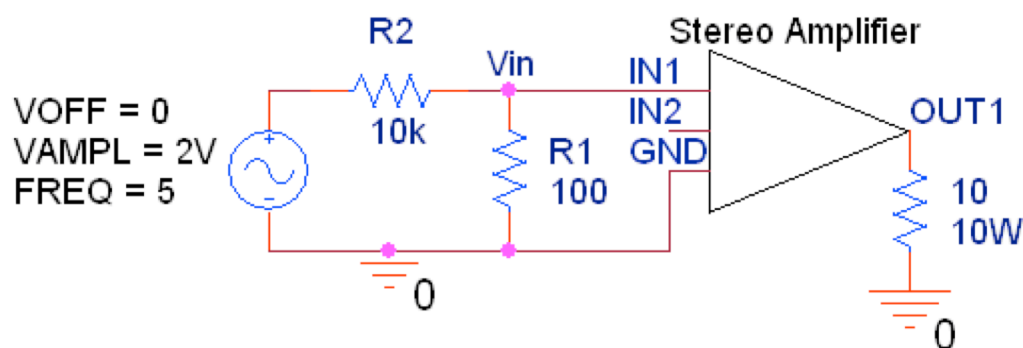

Figure 7: 100 to 1 Voltage Divider
1. Set the power supply you built in the previous lab to 12V (as measured on the digital multimeter), and then unplug the power supply. Attach the outputs of the power supply to the input voltage terminals (V+ and GND) on the stereo amplifier. Connect a 4V peak-to-peak sine wave at 5Hz from the function generator to the input of the voltage divider (V_{in}) as shown in Figure 7. The output of this will be the input into the first channel (IN1) of the stereo amplifier (the ground from the function generator should be connected to the INPUT GND terminal). Connect a 10 Ω , 10W resistor across the output of the stereo amplifier (i.e., from OUT1 to the output ground).